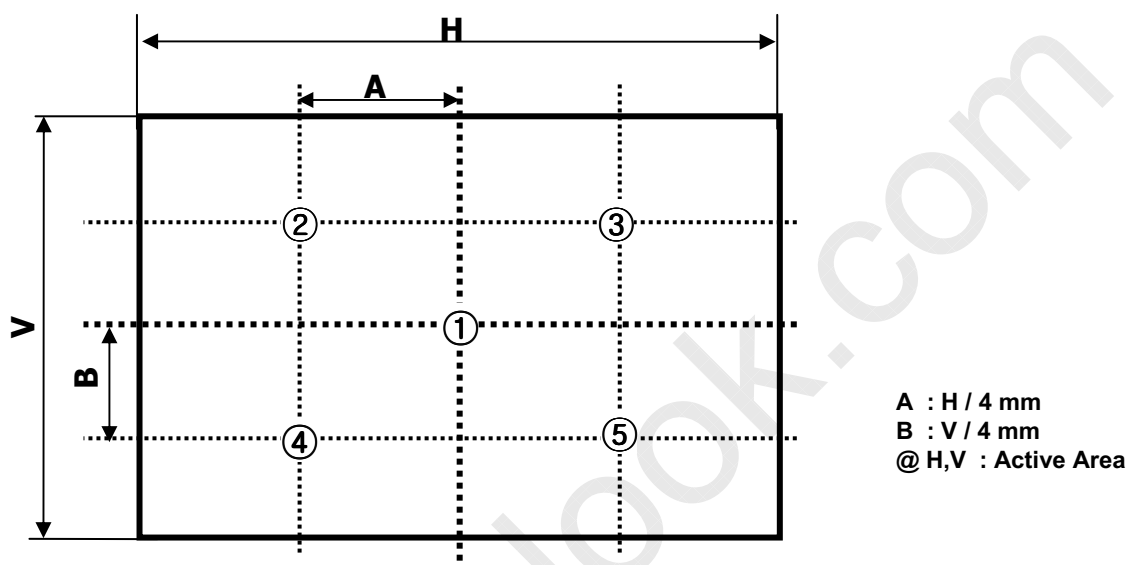

FIG.10 5 Points for Luminance Measure
- Surface luminance is determined after the unit has been 'ON' and 1Hour after lighting the backlight in a dark environment at $25 \pm 2^\circ\text{C}$. Surface luminance is the luminance value at center 1-point across the LCD surface 50cm from the surface with all pixels displaying white. For more information see the FIG. 10.
For more information, see the FIG. 10.